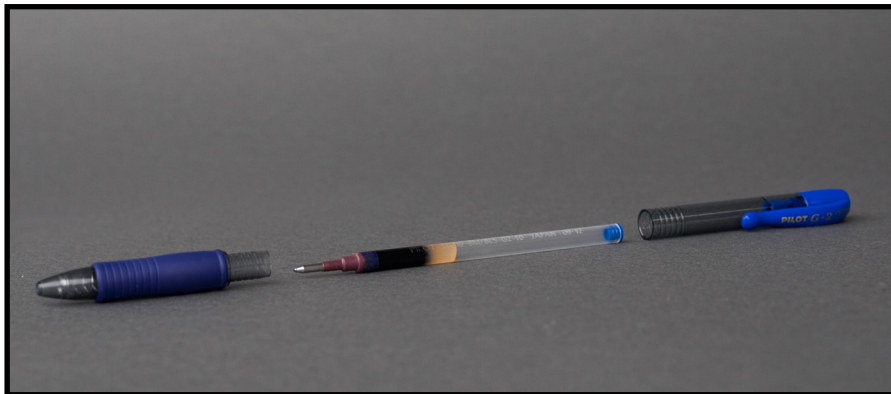

Figure 8.17 - Pen Assembly
1. Disassemble an available pen. How many parts does it have? Now, take the disassembled parts and align them as an exploded assembly. Would someone be able to assemble the pen based on your layout? Figure 8.17 offers a sample image to help you get started.